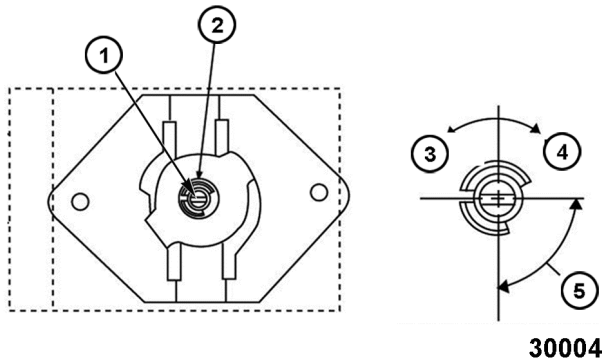

Fig. 85
- B. While holding outer shaft in place, turn inner screw using a small flat edge screwdriver 1/8 turn clockwise to decrease and counterclockwise to increase. 1/4 turn = 35°F. See Fig. 85 below.
Front of Thermostat Shown in Fig. 85
- While holding outer shaft in place, turn inner screw using a small flat edge screwdriver 1/8 turn clockwise to decrease and counterclockwise to increase. 1/4 turn = 35°F. See Fig. 85 under CONVECTION OVEN THERMOSTAT-COMBO VALVE CALIBRATION.